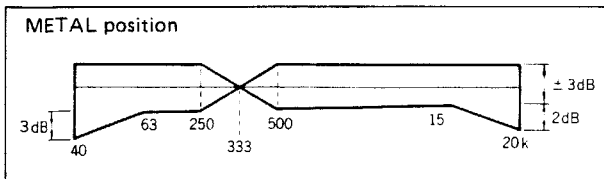

Fig. 10
1. Metal position (Refer to Fig. 10)